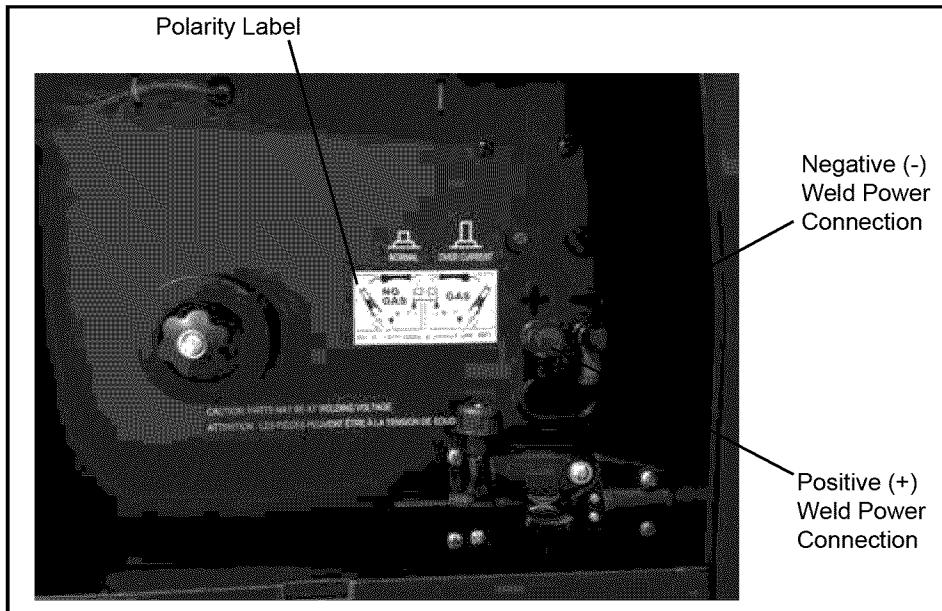

Fig. 7
2. Remove the retaining knobs from the Positive (+) weld power connection and the Negative (-) weld power connection (Fig 7).
3. Locate the Polarity Label inside the wire compartment (Fig 7).